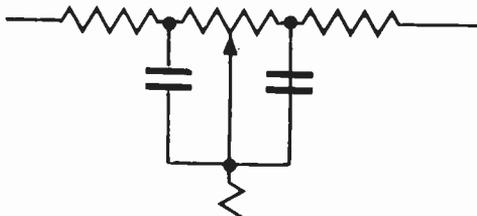
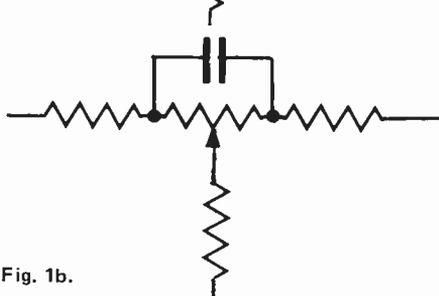

Fig. 1a
Fig. 1b.
7) Fig 1a provides the same corner frequencies at each extreme setting, while Fig 1b provides a more remote corner frequency, that is, a lower break point, in the maximum cut position, but with a smaller parts count. In actual practice, boost is usually more useful than cut, so this is seldom as significant as it would appear at first glance.